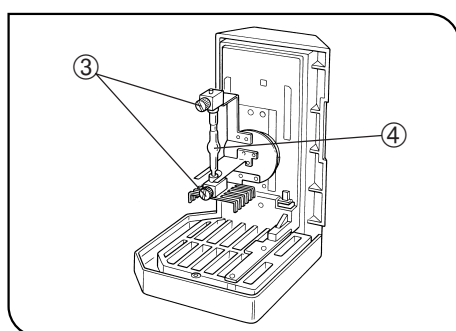

Fig. 53
3. Place the socket section upside down as shown in Fig. 53.